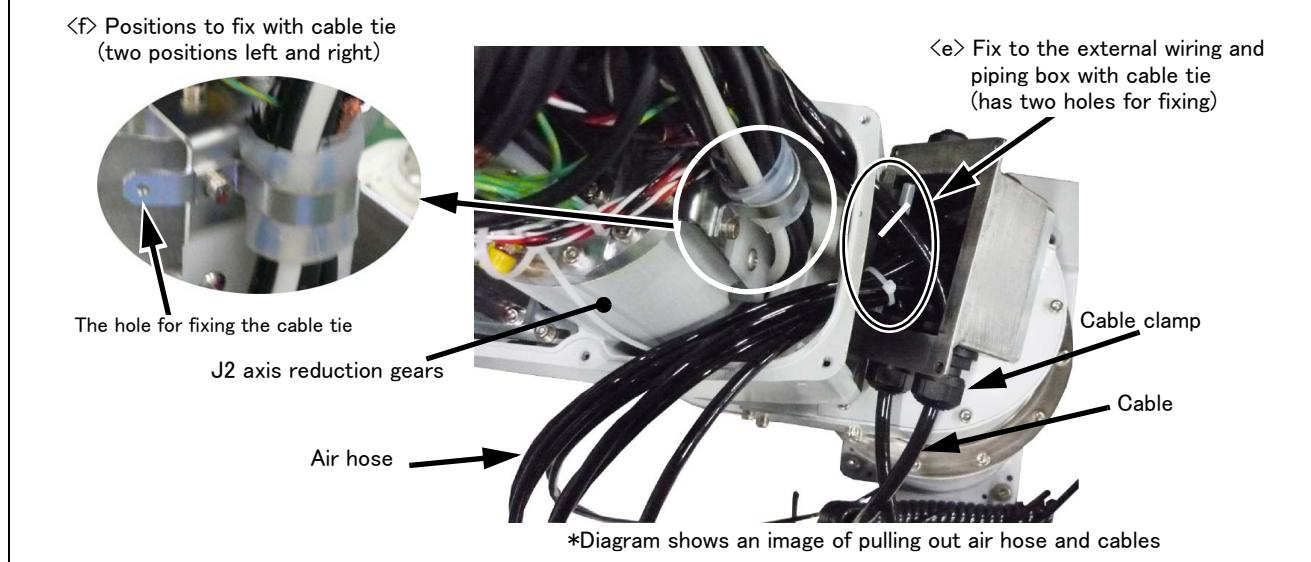

Fig.3-8 : External Wiring and Piping Box
Fig. 3-8 shows the installation procedure for the external wiring and piping box. The procedure is the same in RH-6FH/12FH/20FH. Remove the No. 2 arm cover B and install this option using the same screw holes. The installation procedure is shown below.
- 4) Fix the air hoses and cables to the hole inside of this box by using the attached cable tie. (section <e> of Fig. 3-8)
Fix the hoses and cables to the hole shown in section <f> of Fig. 3-8 using cable tie. There are 2 holes, located left and right.